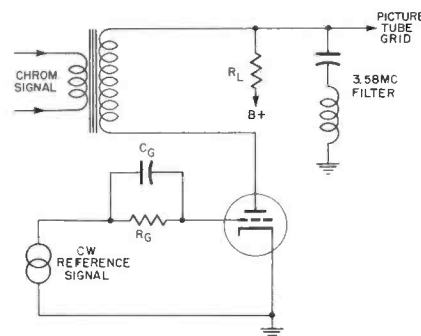
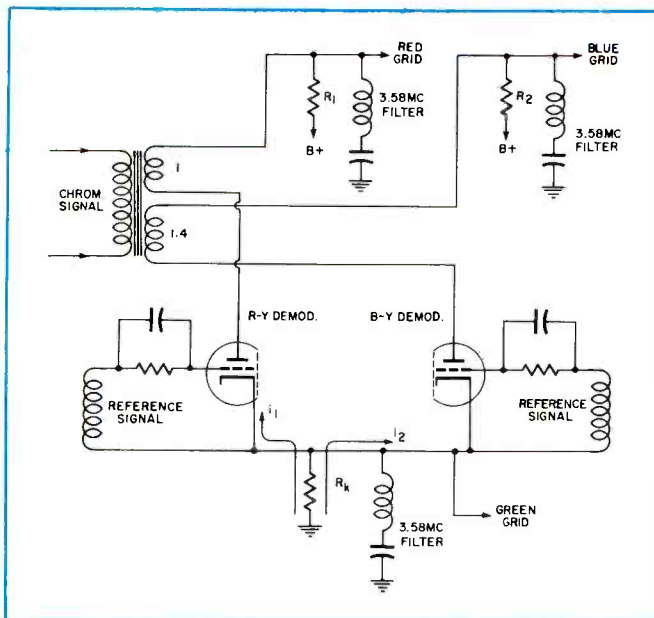

Fig. 1. Basic Circuit of a High-Level Demodulator.
Fig. 3. Basic Circuit of a Two-Triode Demodulator Which Employs a Common Cathode Impedance.
A basic circuit of a high-level demodulator is shown in Fig. 1. A locally generated reference signal is applied to the grid of the triode, and
The basic circuit that was shown in Fig. 1 represents only one triode section of a high-level demodulator stage. At least two triode sections are needed for complete demodulation of the chrominance signal. A basic circuit of a two-triode demodulator is shown in Fig. 3. These triodes function as R - Y and B - Y demodulators. It is not necessary to employ three triodes because the third color-difference signal can be obtained by the mixture of the other two color-difference signals. As
shown in Fig. 3, the G - Y color-difference signal is obtained from the common cathode circuit of the demodulators. This design takes advantage of the fact that a G - Y signal is made up of $-.51(R - Y)$ and $-.19(B - Y)$.
The correct operation of the demodulator circuit of Fig. 3 depends upon three factors: (1) the amplitude of the chrominance signal applied to each plate of the two triodes, (2) the ratios between the plate-load resistors and the common cathode resistor, and (3) the phase relationship between the two reference signals which are applied to the grids of the triodes.
The color-difference signals are attenuated by unequal amounts before transmission in order that the amplitude of the video signal may be kept below that of the sync signal. In order for the correct amplitudes of the color-difference signals to be restored, the amplitudes of the chrominance signals applied to the demodulators must be of the correct ratio. This is accomplished by using a coupling transformer which has the windings of its two secondaries in the proper turns ratio. As shown in Fig. 3, a turns ratio of 1.4 to 1 is used if the receiver has B - Y and R - Y demodulators. With this specified turns ratio, the chrominance signal applied to the B - Y demodulator will be 1.4 times as great as that applied to the R - Y demodulator.
We know that the G - Y signal is obtained from the voltage across the common cathode resistor R_k and that it is made up of $-.51(R - Y)$ and $-.19(B - Y)$. We also know the path of current flow through both demodulators. As shown in Fig. 3, i_1 is the R - Y demodulator current which flows from ground through R_k and through the R - Y triode, and i_2 is the B - Y demodulator current which flows through R_k and through the B - Y triode. From these known facts, the ratio between each of the plate-load resistors R_1 and R_2 to the common cathode resistor R_k can be determined as follows:
In order for the circuit of Fig. 3 to produce the proper color-difference signals to be fed directly to the picture-tube grids, the phases of the reference signals applied to the control grids of the demodulators must be taken into consideration. In other types of demodulator circuits, the reference signals are applied in quadrature (90 degrees apart in phase). In the circuit of this figure, however, this is no longer true. The reference signals have a phase difference of 63.58 degrees. If this phase difference were left at 90 degrees, a B - Y signal produced by the current i_2 flowing through R_k would appear across the load resistor R_1 and an R - Y signal produced by current i_1 flowing through R_k would appear across R_2 . Incorrect color-difference signals would therefore be produced and would improperly control the conduction of the guns in the picture tube.
There will be an R - Y color-difference signal of .7 produced across R_1 in Fig. 3 because (1) the load resistors are in the correct ratio, (2) the chrominance signals driving the demodulators are in the correct ratio, and (3) the reference signals applied to the grids have the correct phase relationship.